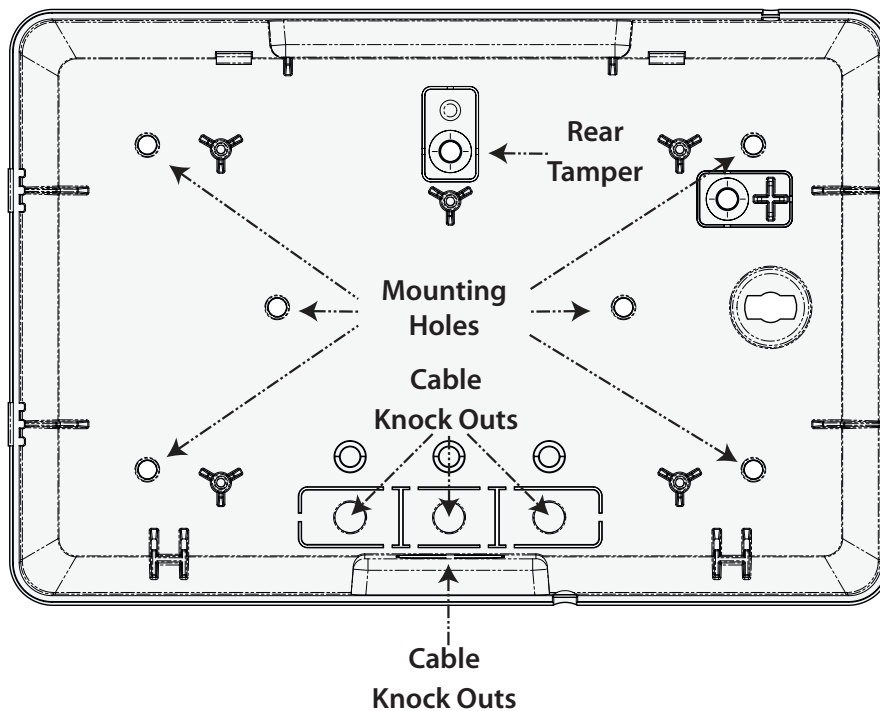

Figure 3: Mounting Holes, Cable Knock Out's & Rear Tamper Locations
**CAUTION - Figure 3 below is a guide only and is not a 1:1 mounting template for the RF120/RF121. Do not scale.**